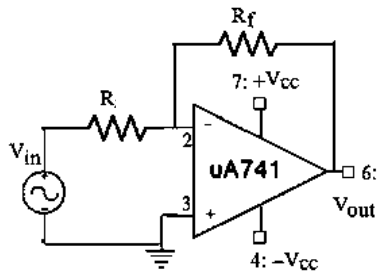

Fig. 5.1: Inverting amplifier
1. Rig up the circuit as shown in the Fig. 5.1.